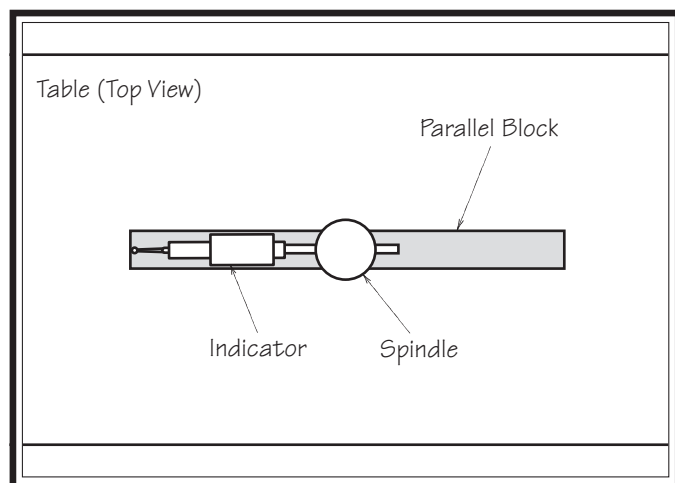

Figure 84. Parallel block positioned for X-axis measurement (top view).
5. To measure spindle alignment along X-axis, place parallel block directly under spindle and indicator across length of table, as illustrated in **Figure 84**.
6. Rotate spindle by hand so indicator point rests on one end of parallel block, as illustrated in **Figure 84**, then zero dial.